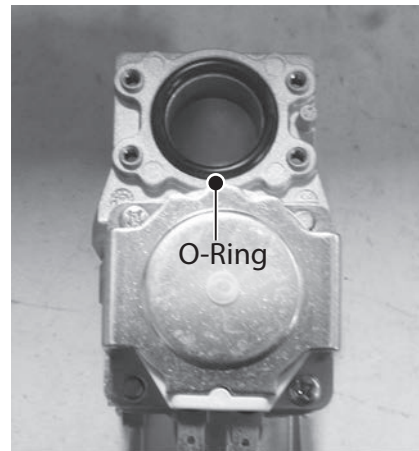

Figure 129 - O-ring replacement (one O-ring)
- 24 Locate the new gas valve O-ring provided in the kit. Install O-ring to gas valve as shown in Figure 129.